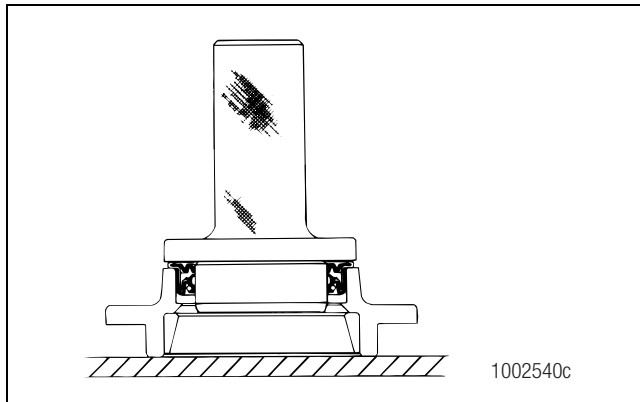

Figure 5.67
- C. Use a press and driver or flat metal plate to install the oil seal into the bearing cage. Figure 5.67.